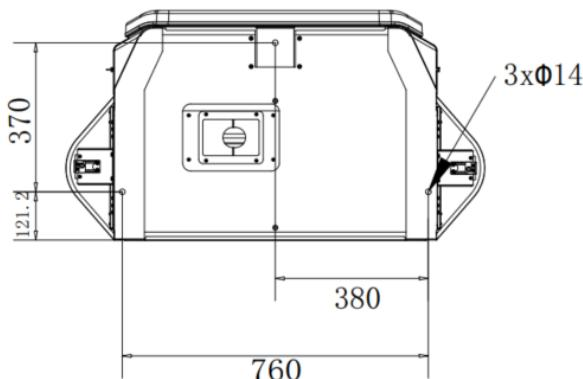

Fig. 5-3 Fixing dimension diagram
- The screw frame must be pre-embedded when making the foundation as shown in Fig. 5-3, three M12×100mm bolts must be pre-embedded, and the height exposed to the ground is  $30\pm3$ mm.